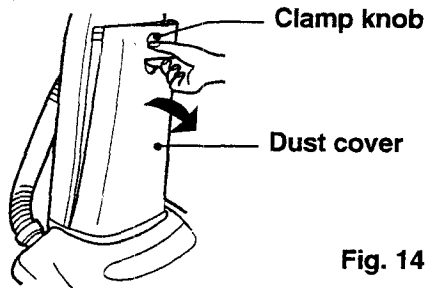

Fig. 14
- 1 Push down on the clamp knob located on the top of the dust cover and pull the dust cover forward. (Away from the unit.) (Fig. 14)